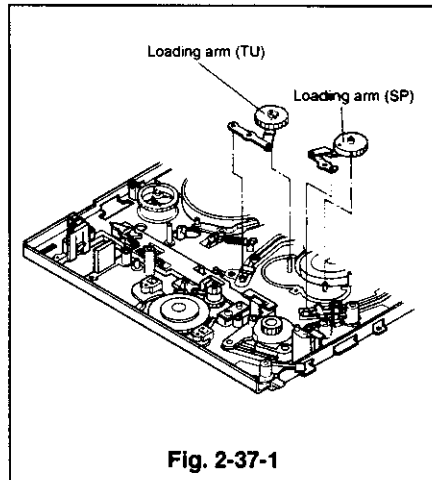
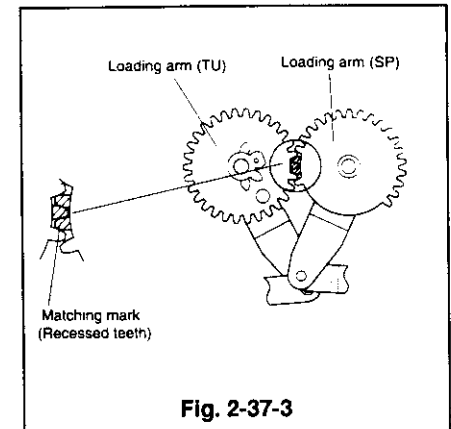

Fig. 2-37-1
Fig. 2-37-3
- ⑤ Raise the loading arms upward, first SP and then TU, to remove them. (Refer to Fig. 2-37-1)
- ② Place the new loading arm (TU) in the position shown in Fig. 2-37-1, then place the loading arm (SP) in the position shown in Fig. 2-37-1 at the same time aligning the marks on the cogs, refer Fig. 2-37-3 (shaded area).
- ③ Apply grease (G) [859D055O50] to the area, which touches the cogwheel of the loading arm (TU) when the loading arms (SP and TU) are shifted fully to the loading direction, and grease (G) [859D055O50] to the gear portion which gears with the plate cam B.